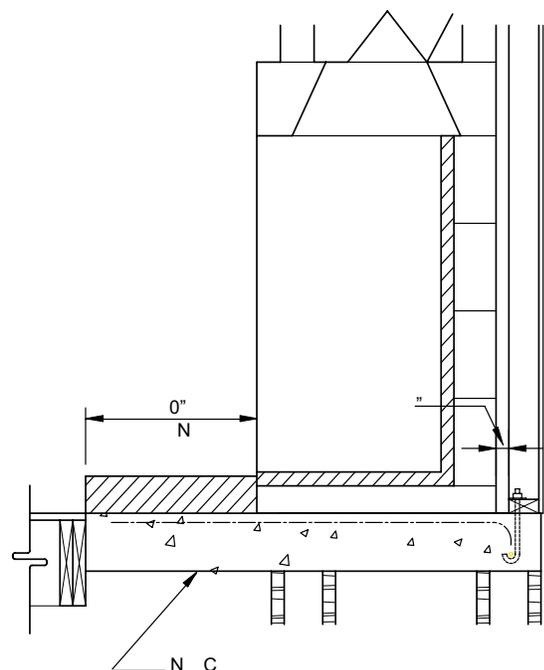

FIGURE 4
A. The fireplaces must sit upon a concrete support slab designed to bear the total installed weight of the fireplace and DM chimney system. These support slabs can have no wood underpinning. (Figure 4)
B. Concrete support slabs for fireplaces must provide the noncombustible hearth extension substrate needed to support the code required noncombustible hearth extension finish materials. (Figure 4)